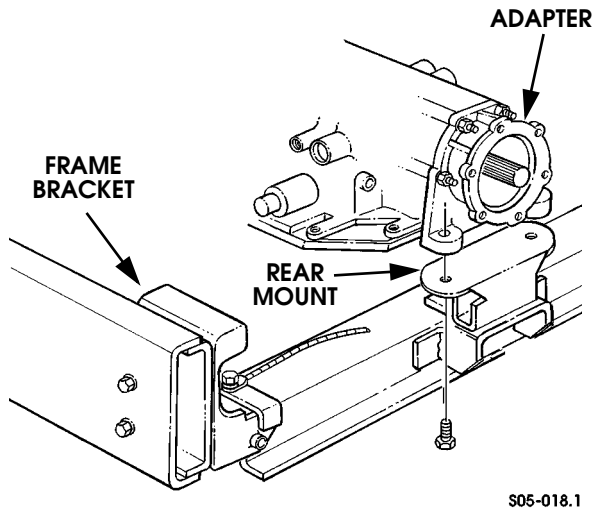

Figure 5-23: Transmission-to-Crossmember Mounting
2. Remove bolts attaching rear mount to transmission (Figure 5-23).